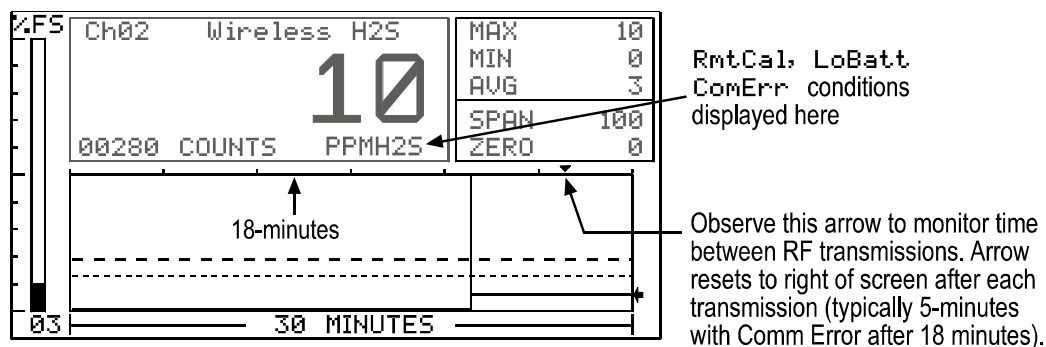

Figure 7.4
- **Communications Error** – Each channel's 30-minute trend screens (Figure 7.4) are very useful for diagnosing wireless problems since it indicates amount of time since the most recent transmission was received. The down arrow on top of the trend screen resets to far right each time a transmission is received by that